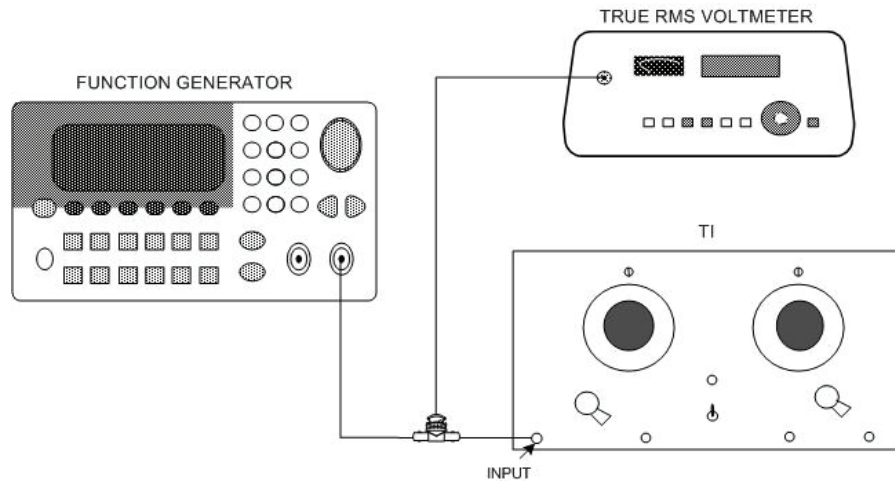

Figure 2. Unity gain check - equipment setup.
- (1) Connect equipment as shown in figure 2, using termination.
- (1) Connect equipment as shown in figure 2.
- (2) Set **CUTOFF FREQ Hz** dial to **20** and selector switch to **HIGH PASS X1**.
- (3) Adjust function generator frequency to 2 MHz and amplitude for a 0.03 V indication on true rms voltmeter.
- (4) Move true rms voltmeter connection from **INPUT** to **OUTPUT** connector. If true rms voltmeter does not indicate between 0.0282 and 0.0318 V, perform **b** (1) below.
- (5) Set selector switch to **HIGH PASS X10K**. True rms voltmeter will indicate between 0.0318 and 0.0282 V.
- (6) Set **CUTOFF FREQ Hz** dial to **22** and selector switch to **HIGH PASS X100**.
- (7) Adjust function generator frequency to 600 kHz and amplitude for a 0.3 V indication on true rms voltmeter.
- (8) Connect frequency counter to **INPUT** connector.
- (9) Set selector switch to **HIGH PASS X10K**. If true rms voltmeter does not indicate between 0.289 and 0.310 V, perform **b** (2) and (3) below.
- (10) Set selector switch to **HIGH PASS X100**.
- (11) Adjust function generator frequency to 110 kHz as indicated on frequency counter and amplitude for a 1 V indication on true rms voltmeter.